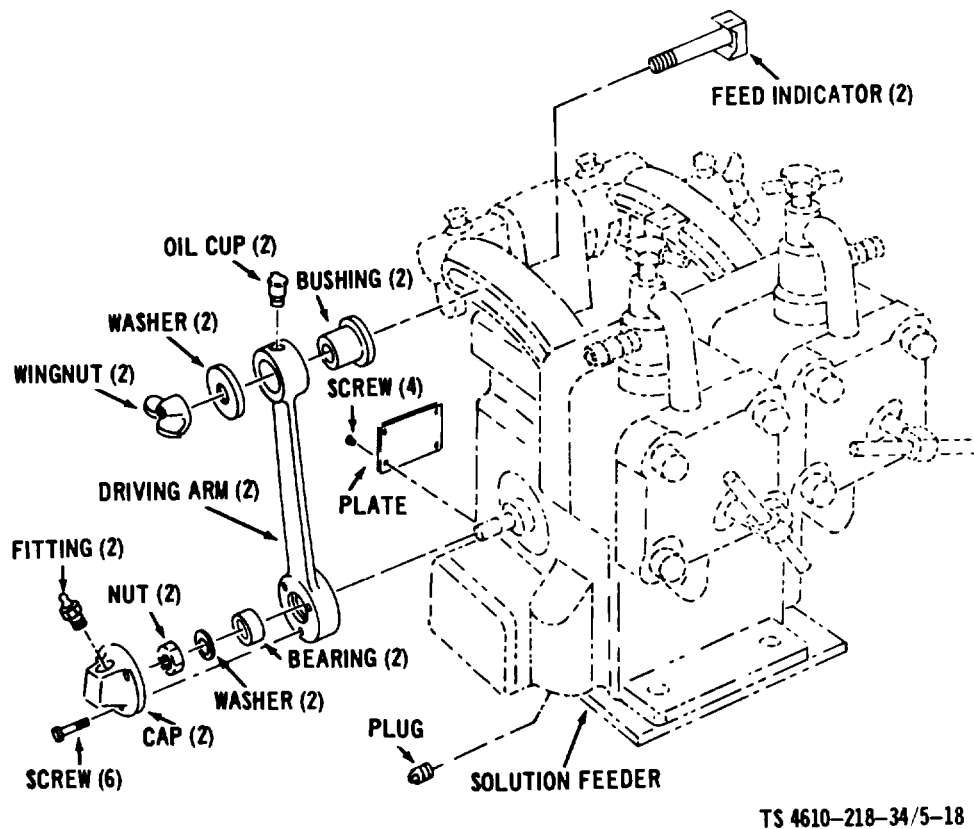

Figure 5-18. Chemical Solution Feeder Drive Arms, Disassembly and Reassembly
(1) Refer to figure 5-18 for disassembly of the drive arms.
(7) Reassemble the drive arms as illustrated in figure 5-18.